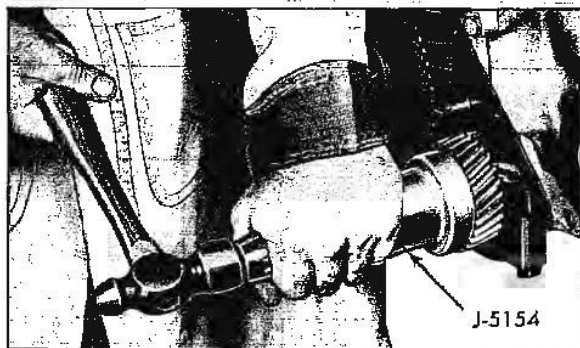

Fig. 6-71 Installing Crankshaft Timing Gear
9. Install crankshaft timing gear with installer tool J-5154 (Fig. 6-71).